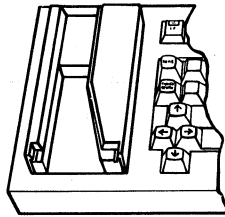

Fig. 3—Keyboard With Magnetic Stripe Reader (Left Side)
2.07 A Magnetic Stripe Reader (MSR) is provided in 45K301/GAA/02 for secured entry to the keyboard. The MSR consists of a read head assembly, amplifier circuit card and a card in place switch. The reader is located to the left of the main key arrangement, see Fig. 3. A filler panel is inserted in 45K301/GAA/03 when the reader is not used.